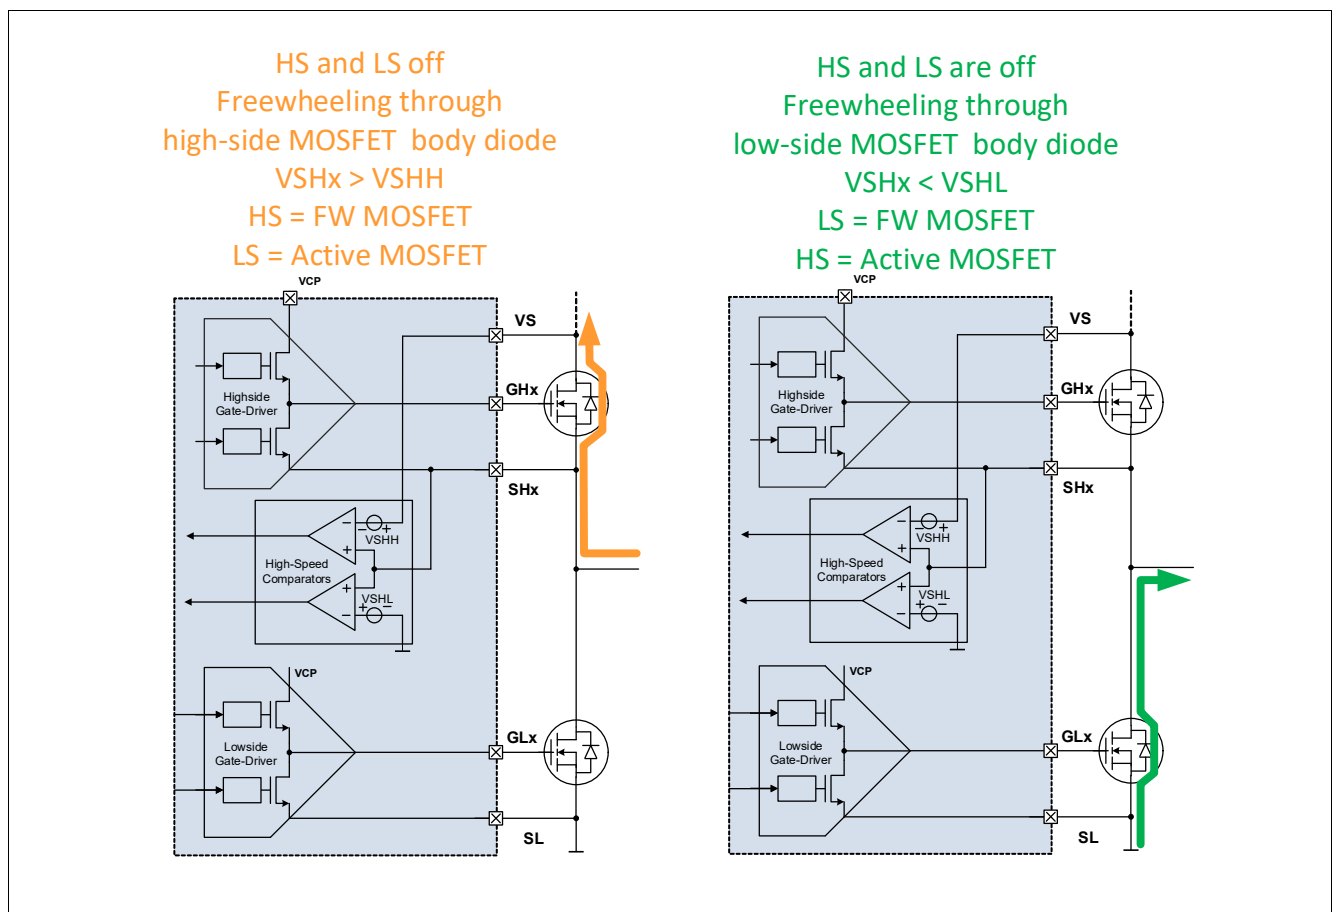

Figure 45 Detection of the active and FW MOSFET (**EN_GEN_CHECK** = 1)- Principle
If **EN_GEN_CHECK** = 1, right before each MOSFET activation, the device detects which MOSFET of the half-bridge is the active MOSFET and which MOSFET is the free-wheeling (FW) MOSFET (**Figure 45**):